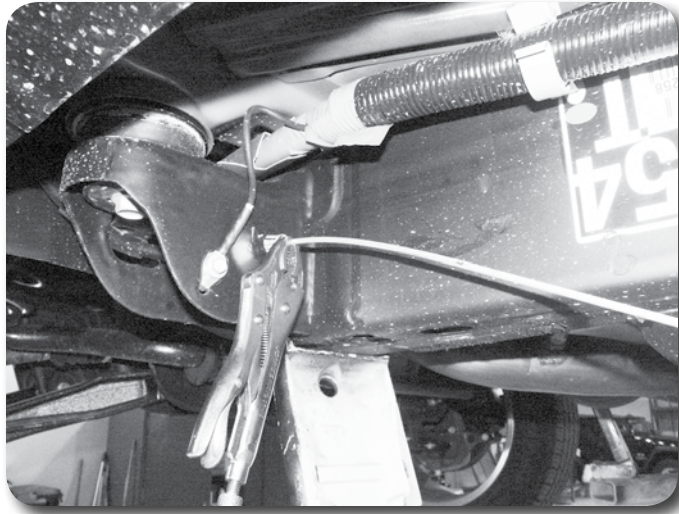

Figure 12
17. Pull down on the parking brake cable that runs down the driver's side frame rail. Clamp the cable where it runs through the front body mount so it stays slack **Figure 12**.